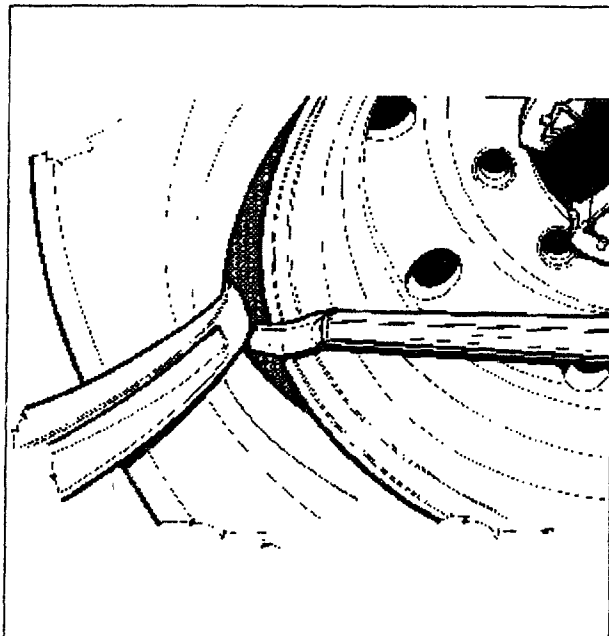

Fig.31
3. Lift the chuck arm enough to clear the hook 2-3 cm (1"-1 1/2") from the rim flange. Move the mount/demount tool towards the outside. This will allow you to put the long bar in between the bead and the rim flange for necessary prying (Fig.31).